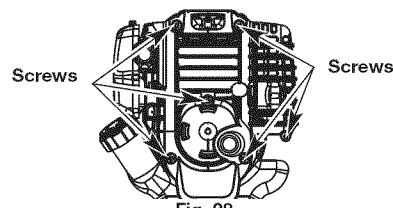

Fig. 28
1. Remove the six (6) screws on the back of the engine cover with a Flat-head or T-25 Torx screwdriver (Fig. 28).
4. Remove the engine cover (Fig. 28).
1. Stop the engine and allow it to cool. Remove the six (6) screws on the back of the engine cover with a Flat-head or T-25 Torx screwdriver (Fig. 28).